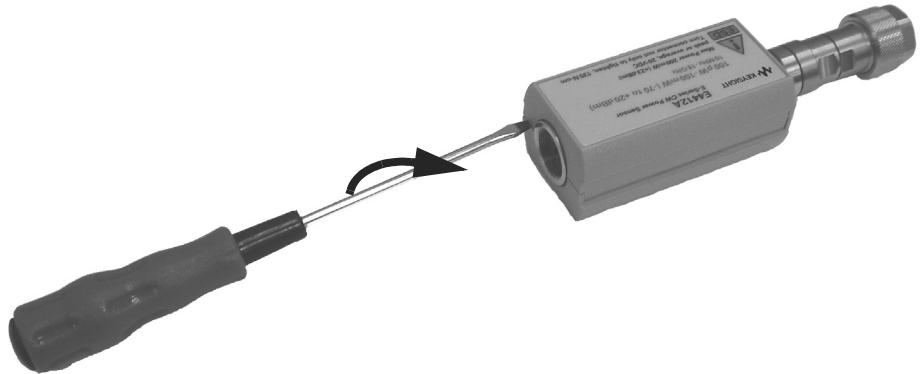

Figure 1-9 Removing power sensor shell
- 1 At the rear of the power sensor, insert the blade of a screwdriver between the plastic shells (Figure 1-9). To prevent damage to the plastic shells use a screwdriver blade as wide as the slot between the two shells.
- 1 Replace the magnetic shields and the plastic shells as shown in Figure 1-9. Snap the plastic shells together.